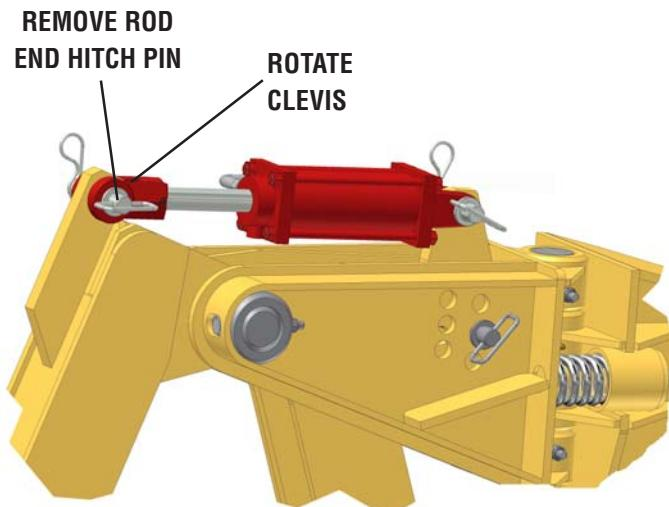

Figure 8
4. The clamping of the VTA is adjustable, should this be necessary. To do this, remove the hitch pin from the rod end side of the carrier assembly's hydraulic cylinder. The rod end's clevis is threaded onto the cylinder rod. To adjust the clevis, loosen the clevis' clamping bolt and thread the clevis in or out. Threading in will open/widen the carrier assembly and threading out will close/narrow the carrier assembly. See Figure 8.